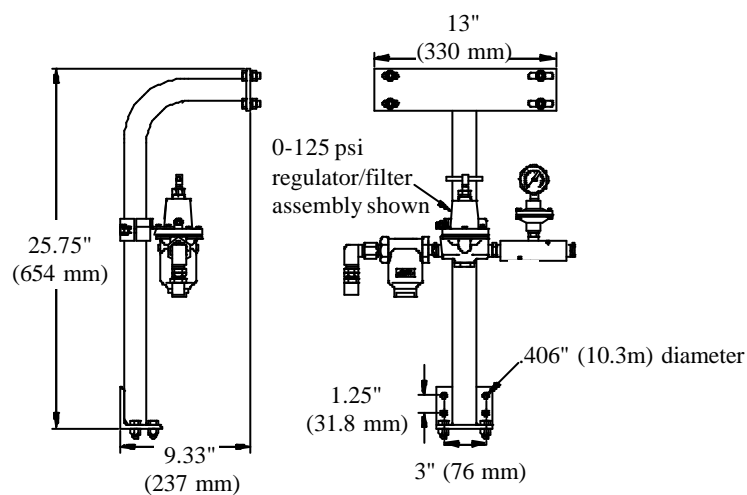

Figure 4. Machine-Mount System Pedestal
**Note!** The control may also be mounted either to Valco’s machine-mount pedestal or mobile-system pedestal (see Figures 4 and 5).